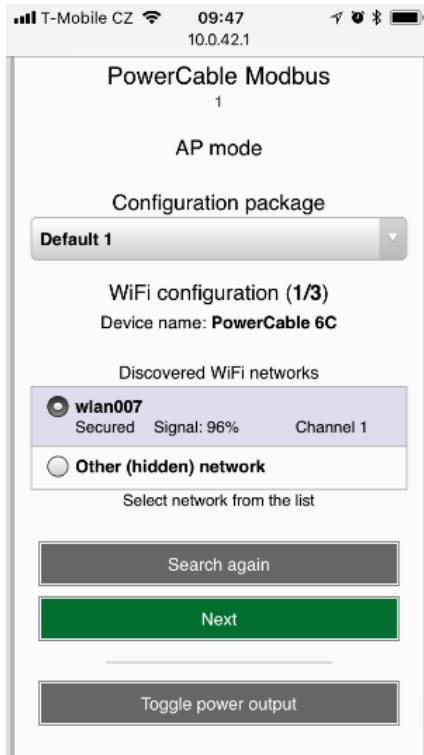

Figure 24 -Network selection in AP mode
- Select your network in the list of detected networks and click “Next” (Figure 24).